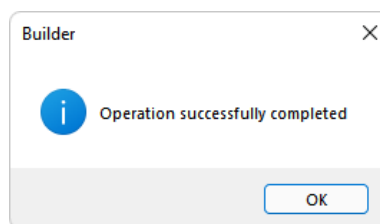

FIGURE 9-114
- When the check completes the program will prompt the user with the message in **FIGURE 9-114**. Click the **OK** button.